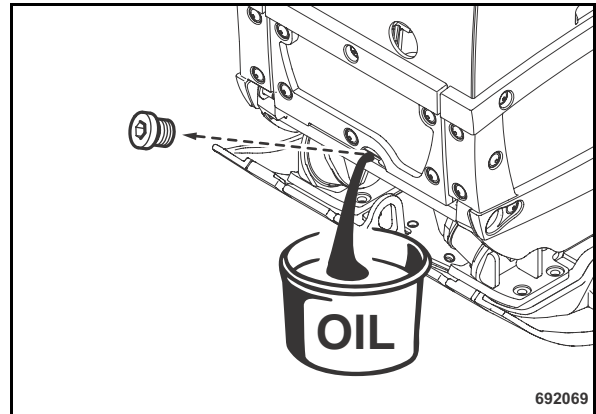

Fig. 58
- Unscrew the oil drain plug and catch any oil running out (Fig. 58).